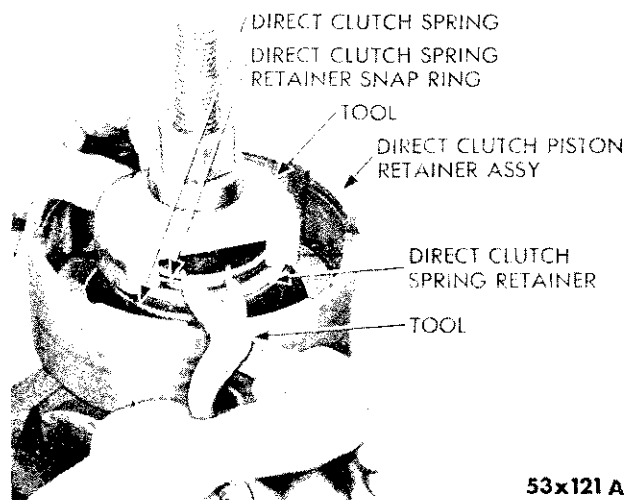

Fig. 30—Removal and Installation of Direct Clutch Spring Retainer Snap Ring
(4) Using compressor, Tool C-3575 (or C-3533), compress the direct clutch spring sufficiently to unseat the direct clutch spring retainer snap ring with pliers, Tool C-3301, as shown in Figure 30. Release compressor, Tool C-3575 (or C-3533), and remove the direct clutch spring retainer snap ring, spring retainer and spring from the clutch retainer. Check spring, retainer and snap ring for distortion.
(5) Using a twisting motion, remove the direct clutch piston from retainer. Note the ball check in clutch retainer housing. The ball check relieves centrifugal oil pressure when transmission is in neutral and prevents clutch engagement when engine speeds are increased. Make sure ball operates freely and seals properly. The bronze bushing used in the direct clutch piston retainer is not replaceable.